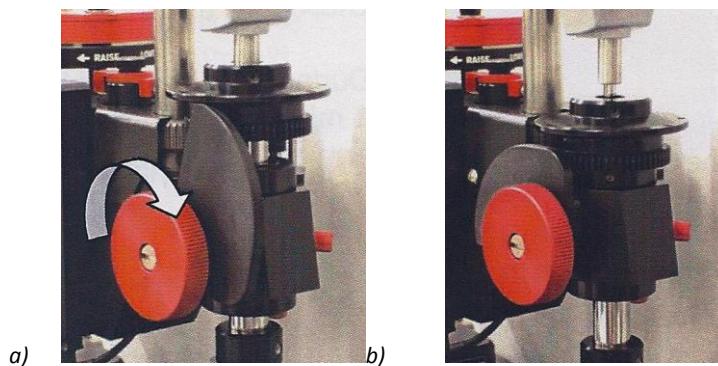

Figure 14: a) Spindle riser positioned UP; b) Spindle riser positioned DOWN.
4. Attach a parallel polishing fixture (Figure 11) to the MultiPrep head and lower the spindle using the spindle riser (Figure 14).
5. Raise the spindle either using the vertical adjustment knob or the spindle riser (Figure 14) so that the sample and fixture fit without contacting the platen and the abrasive surface.
8. Remember to bring down the spindle riser before starting to run a sample! (Figure 14)
19. Remember to bring down the spindle riser before starting to run a sample! (Figure 14)